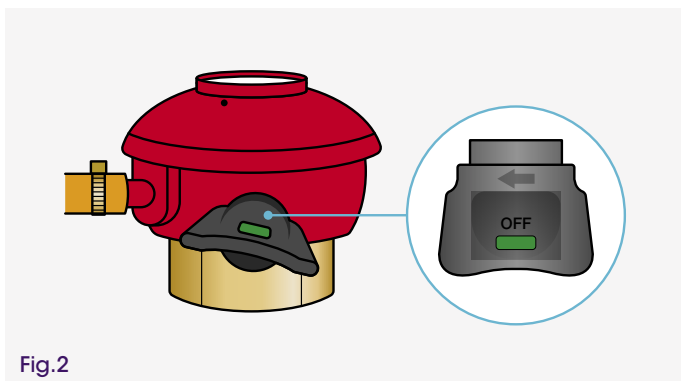

Fig.2
You should hear a "click" sound which means the regulator is securely latched (**Fig.2**).
- The handle is in the 'closed' position (the regulator is OFF when a green rectangle is visible on the handle (Fig. 2).